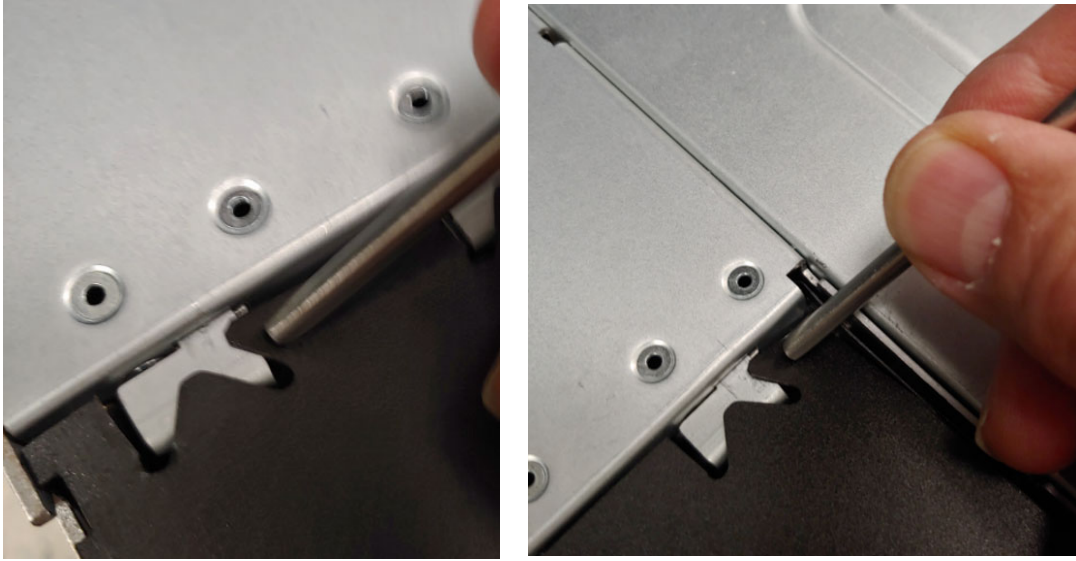

Figure 77 Mylar tabs freed from the metal tabs
- Using a blunt tool press the Mylar tabs present below the sheet metal tabs and deflect them upward to make them free from the metal tabs (see Figure 77).